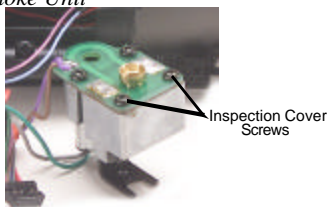

Figure 5b. Inspecting the Smoke Unit
4. Set the board and the bracket aside, unscrew the one screw holding the smoke unit assembly from the boiler shell. Slide the smoke unit assembly all the way towards the back of the boiler to free it. Once the unit is freed, remove the inspection cover (Fig. 5b). Inspect the wick; if it is darkly discolored and hard, it should be replaced.